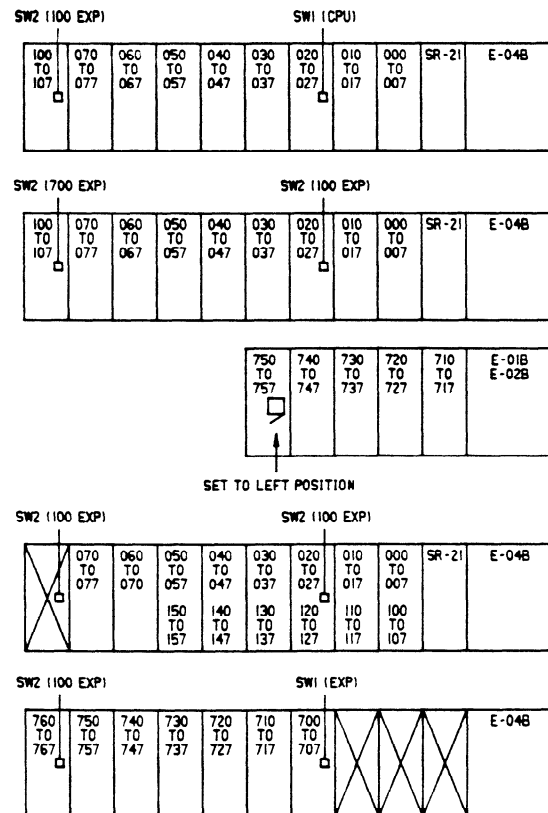

Figure 3-6. Examples of Rack Configuration Switch Setting Series One Plus
16. Example of SW1 and SW2 settings are shown below in figure 3-6.